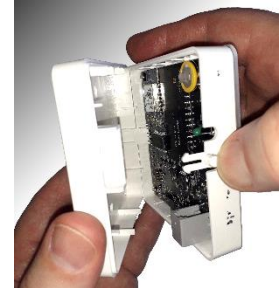

Fig 7
- Step 1** Press release button on side of Controller case and pull the back case away (see Fig 7).